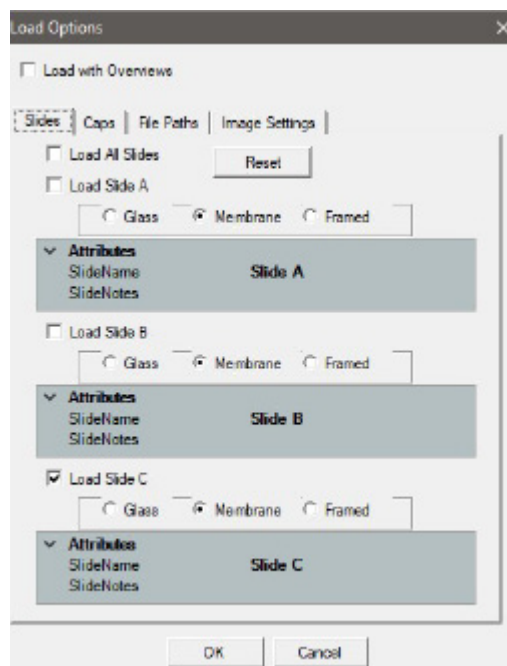

Figure 5
5. (Optional) Enter any comments for each slide in the Figure 5 Load Options dialog **SlideNotes** field. These comments are saved to the cap interaction history file.
- If you selected **Load with Overviews** in the Load Options dialog box (see Figure 5), the instrument automatically acquires and displays the slide overview image for all slides loaded.